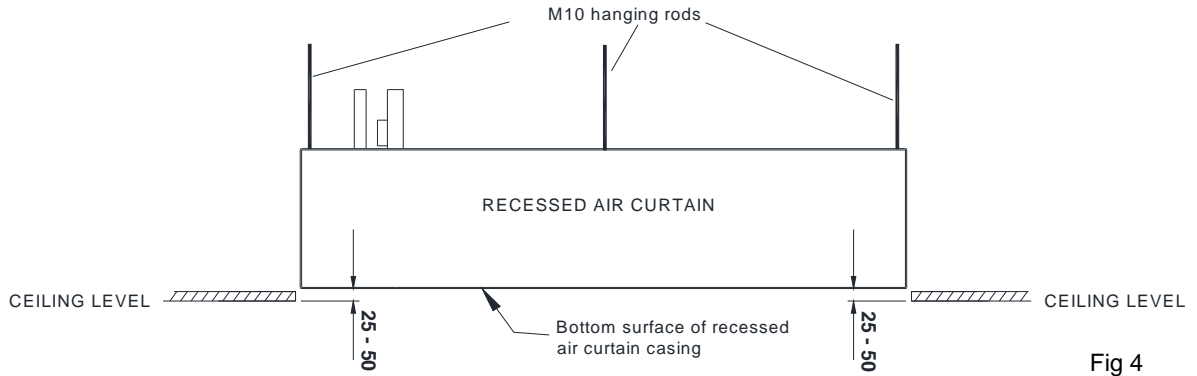

Fig 4
Step 3 If you are installing model PHV1500R, fit a 5th M10 threaded rod into the hanging point in the middle of the unit. For model PHV2000R, fit 5th and 6th threaded rods, see Appendices 1 and Fig 4.
Step 5 Adjust the height of the unit on its hanging rods so the bottom surface of the casing goes between 25-50mm up into the ceiling as shown in Fig 4. Ensure the unit is level.